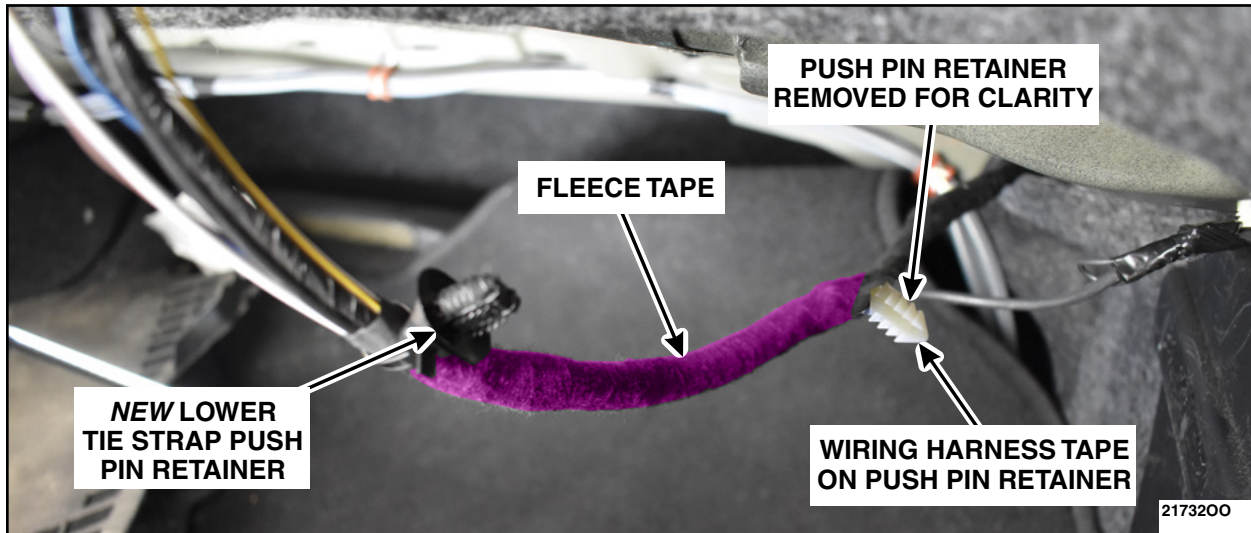

FIGURE 48
67. Wrap the exposed wiring harness from the new lower tie strap push pin retainer to the wiring harness tape on push pin retainer using Tesa® 51608 PET Fleece or equivalent fleece tape. See Figure 48.